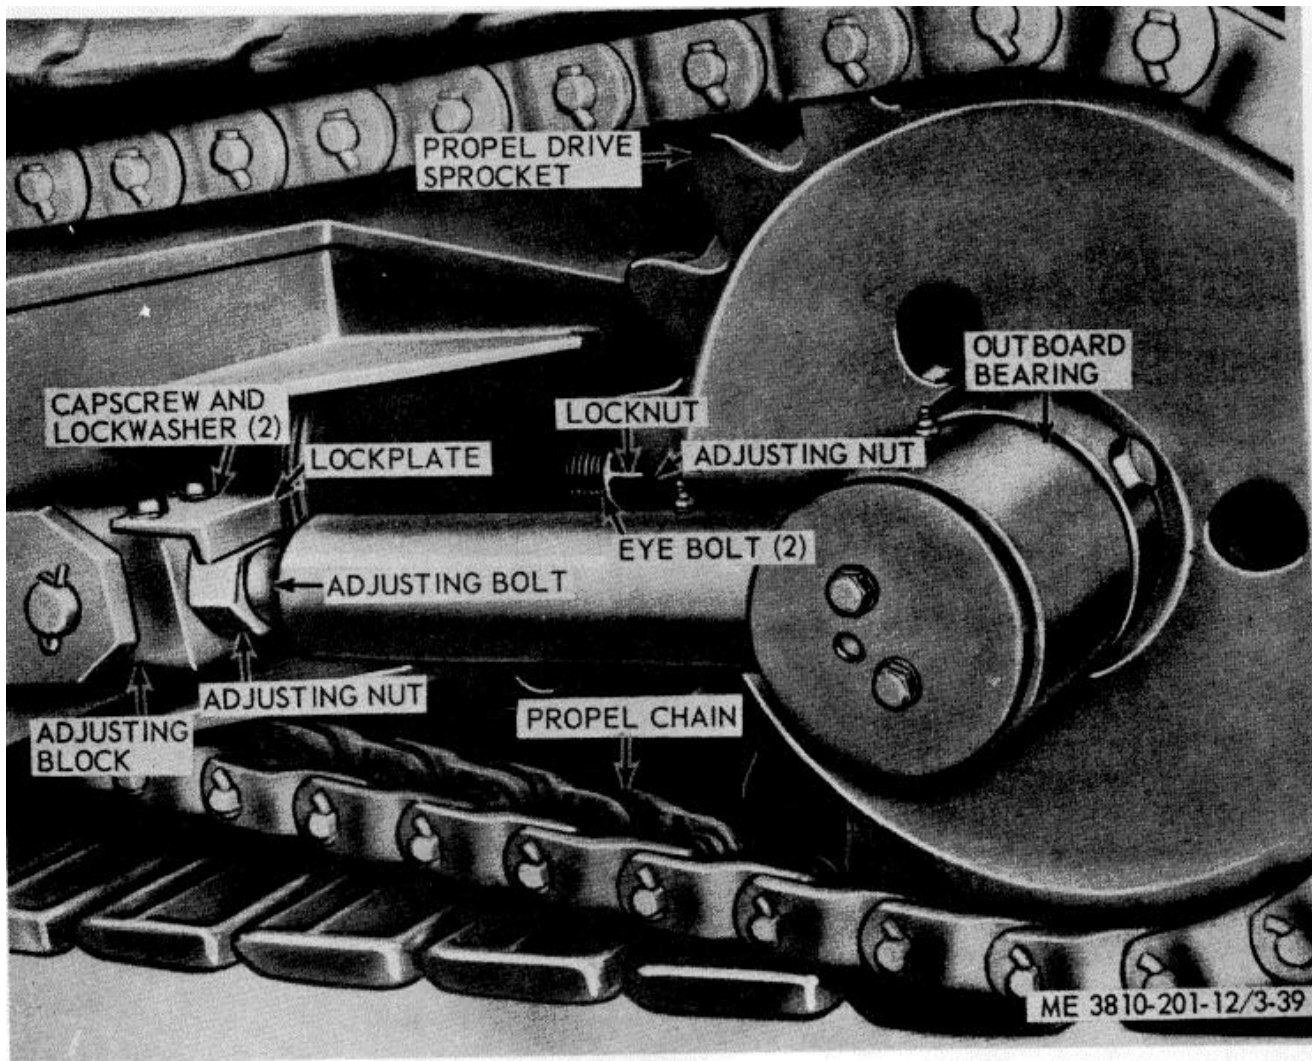

Figure 3-39. Propel chain adjustment.
(1) Back off locknuts on two eyebolts (fig. 3-39) (one on each side of sprocket) then, alternately turn adjusting nuts, first on outside then on inside, in or out until slack in propel chain can be raised approximately 1 1/2 inches. Repeat on opposite side of frame for remaining propel chain. When adjustment is correct, tighten locknuts to secure adjustment.